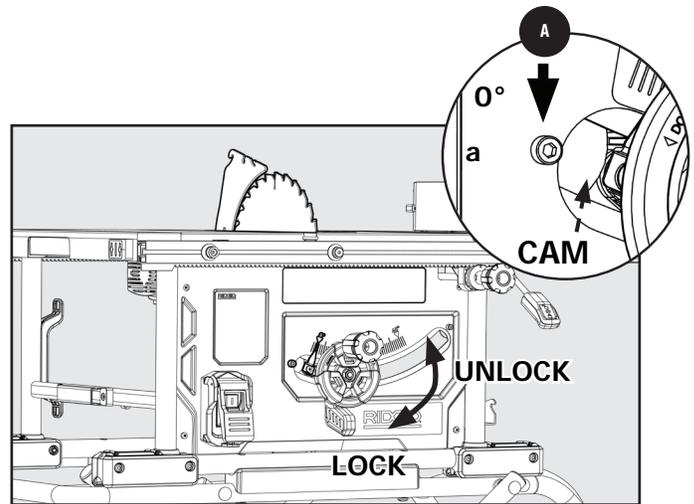

Figure 38
2. If it is not square, adjust the 0° stop as shown in **ADJUSTING THE BEVEL STOPS**. See Figures 38 and 39.
If the blade is not vertically square to the table, you **MUST** adjust the 0° positive stop, located on the far left end of the bevel track as shown in Figures 38 and 38a.